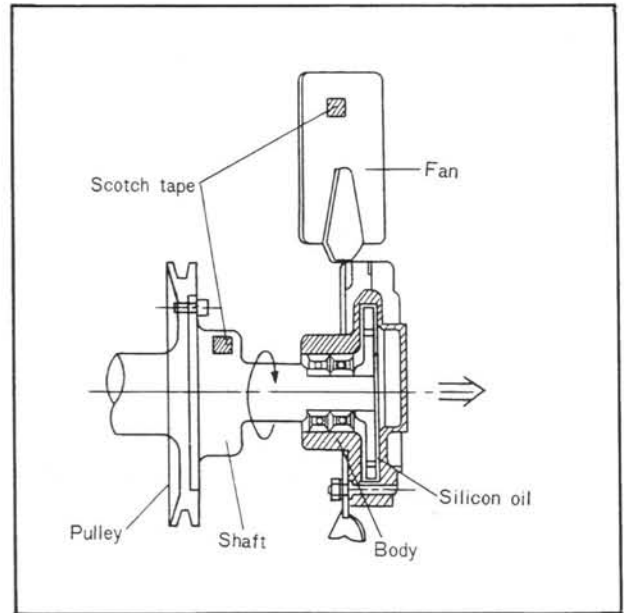

Fig. 3-3 Fan drive assembly
- 1) Stick scotch tape on the fan drive shaft and fan as per Fig. 3-3.